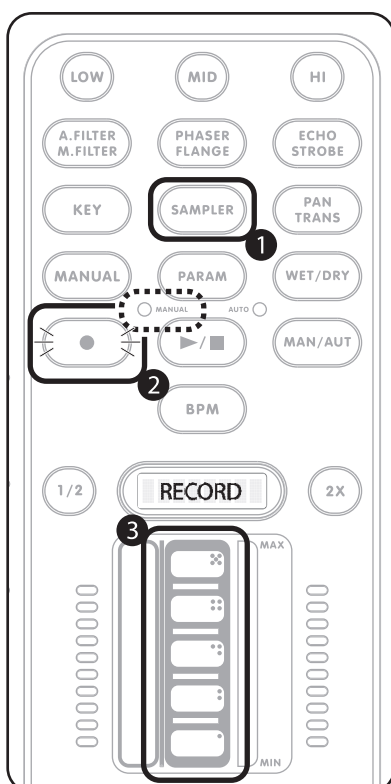

Figure 4.26
Press the SAMPLER button. Figure 4.26 (1)